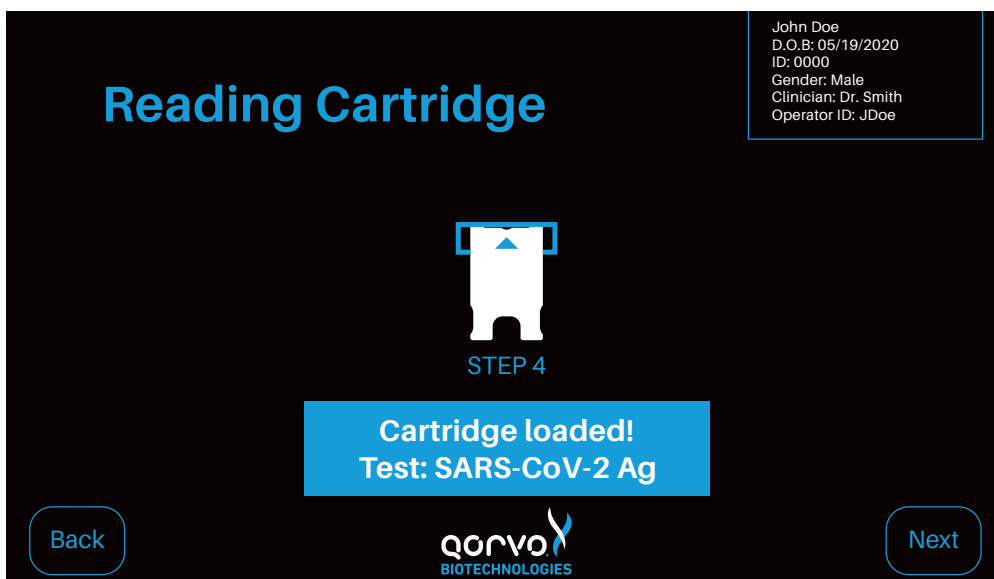

Figure 29
- Each cartridge contains a radio-frequency identification (RFID) tag that communicates with the instrument as to the cartridge type. The RFID tag informs the instrument which assay to run and informs the user which sample types are compatible with the selected cartridge (Figure 29).
Note: The assay information in Figure 29 is an example only. Refer to Qorvo Omnia test cartridge Instructions for Use for assay-specific information.